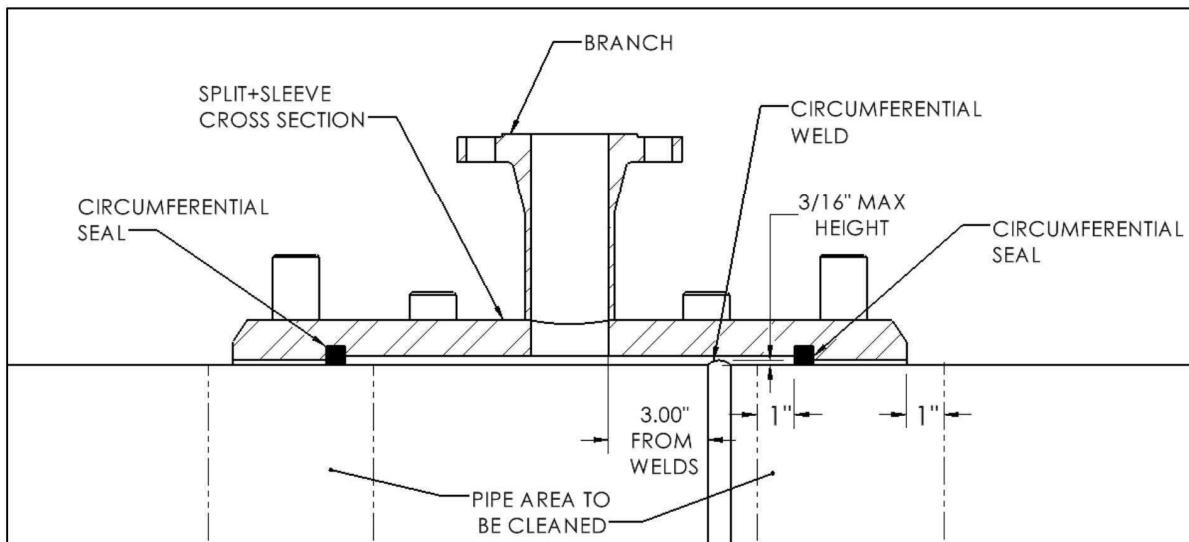

Figure 3
2. Remove all coatings, rust, and scale from the pipe surface where the circumferential seals of the PLIDCO Hot Tapping+Saddle will contact the pipe (see Figure 3). A near-white finish, as noted in SSPC-SP10 / NACE No.2, is preferred 1" (25mm) before and after the seal. The cleaner the pipe surface, the more positive the seal. Sandblasted surfaces should be buffed smooth.
- extend 1 inch (25mm) inside of the seals and 1inch (25mm) beyond the end of the fitting as shown in Figure 3 designated, "Pipe area to be cleaned".
- Circumferential pipe welds between the circumferential seals do not need to be ground flush as long as the weld height does not exceed 3/16 inch (4.7 mm) (see Figure 3). In addition, circumferential welds should be a minimum of 3" (76.2mm) from the hot tap branch.